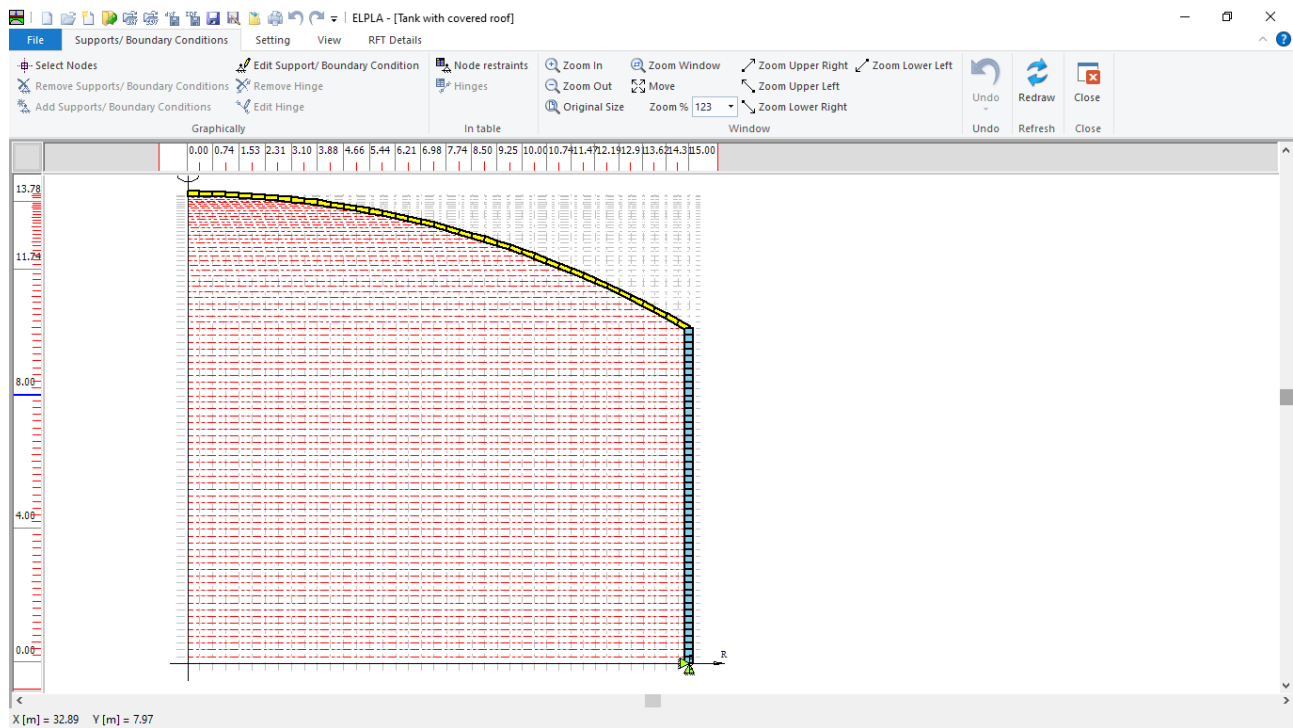

Figure 5.20 "Supports/ Boundary Conditions" window after defining the support
- Choose "Save " command from "File" menu in Figure 5.20 to save the data of supports
- Choose "Close" command from "File" menu in Figure 5.20 to close the "Supports/ Boundary conditions" window and return to the main window